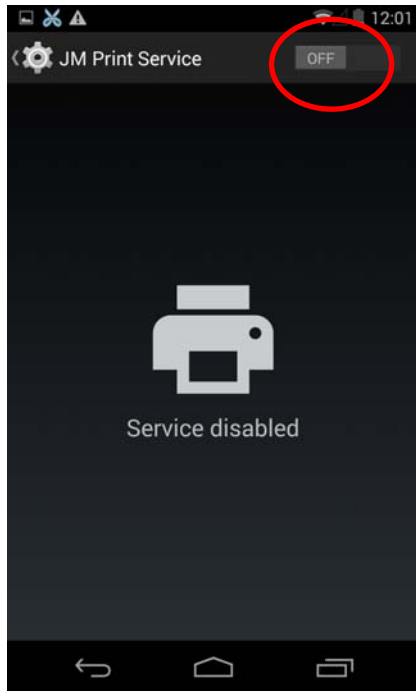

Figure 23
3.4 Switch the “JM Print Service” function from “OFF” to “ON”, as shown in Figure 23.